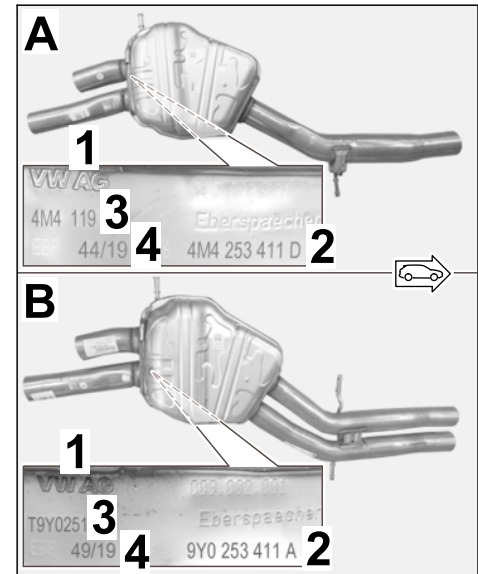

Figure 6
– Center silencer (⇒ *Figure 6*):